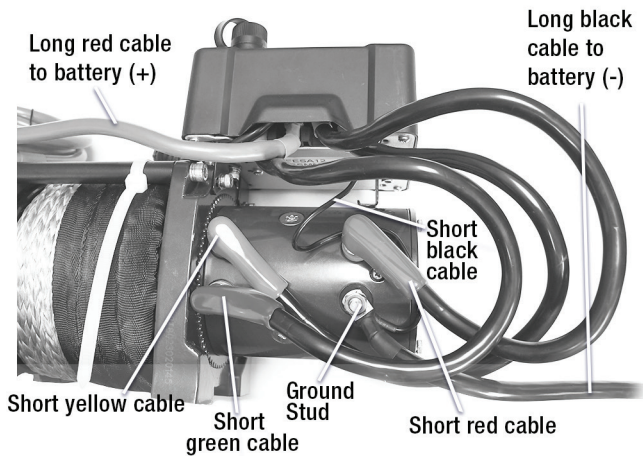

Fig. 2-12
1. Slip the boots onto pertinent cables and make electrical connection in accordance with the schematic on following page. Slide the boots onto all the electrical connections made (Fig. 2-12 through 2-14).